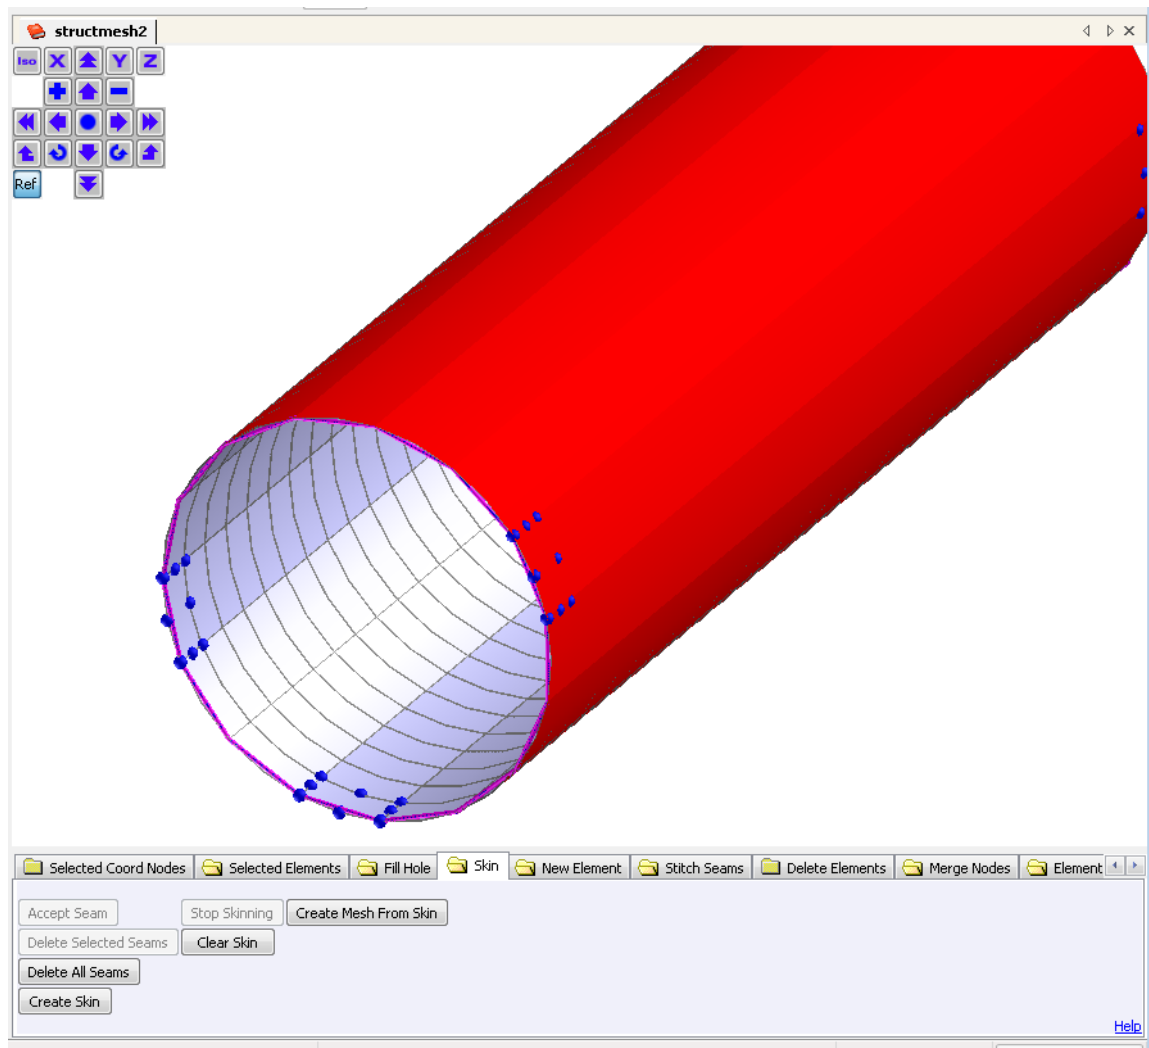

Figure 5.32 Create Skin.
- To start the propagation of skin across the mesh select: **Skin** → **Create Skin**. The skin propagation starts from the selected element and covers the entire mesh defined within seams. The skin that is going to be used to create the BE mesh is shown in color *Red* for inspection. Check if entire mesh you are interested is covered. See Figure 5.32.